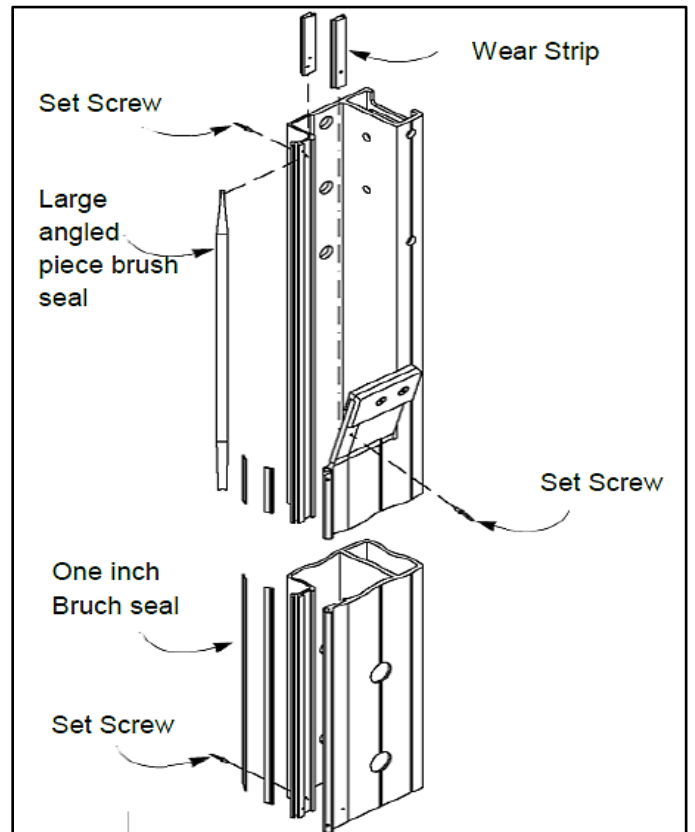

Figure 34
1. Remove set screws in side columns and remove the old seals. (See Figure 34.)